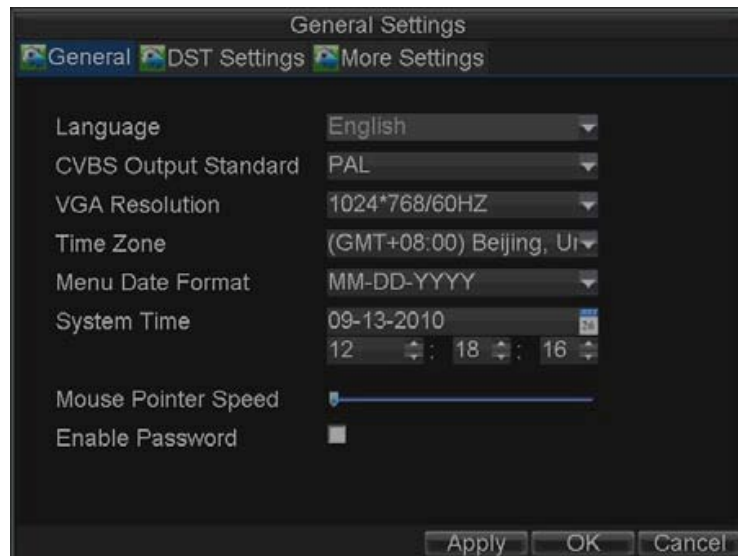

Figure 14.1. General Settings Menu
- 1) Click Menu > Settings > General to enter the General Settings menu, shown in Figure 14.1.
1. Click Menu > Settings > General to enter the General Settings menu, shown in Figure 14.1.